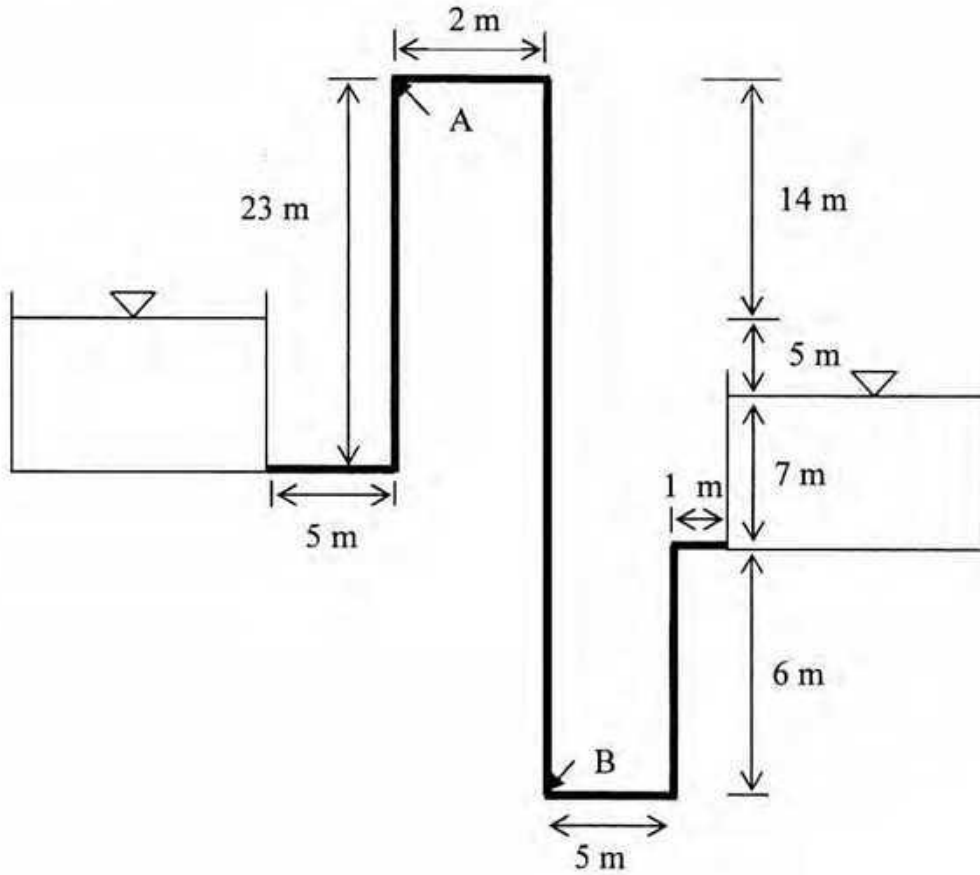

Figure 9
- b. Calculate pressure at point A and B shown in Figure 9. Take  $f=0.04$ , pipe diameter 0.25 m and  $K=0.5$  for entry,  $K=0.6$  for bent and  $K=0.8$  at exit. 20